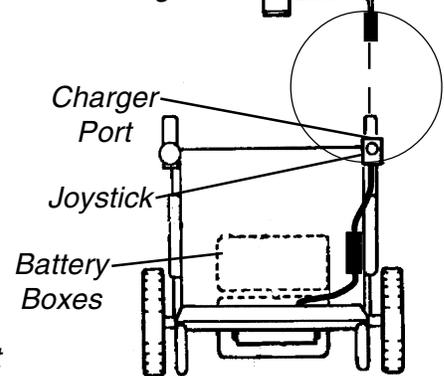

FIGURE 6 - CHARGING BATTERIES
**CHARGING BATTERIES (FIGURE 6)**
**Wheelchairs Equipped With MCC-Mark IV Joystick (Detail "A" of FIGURE 6)**
**Wheelchairs Equipped With Mark IV RII Joystick (Detail "B" of FIGURE 6)**
*NOTE: Allow eight (8) hours for normal charging. Larger batteries (greater than 55 ampere-hours) or severely discharged batteries may require up to sixteen (16) hours to be properly charged and equalized.*
*NOTE: R2BASIC and R2STANDARD ONLY - If the charger operates for sixteen (16) hours and is unable to fully charge the batteries, an internal timer turns the charger off and begins to fast blink the green light.*